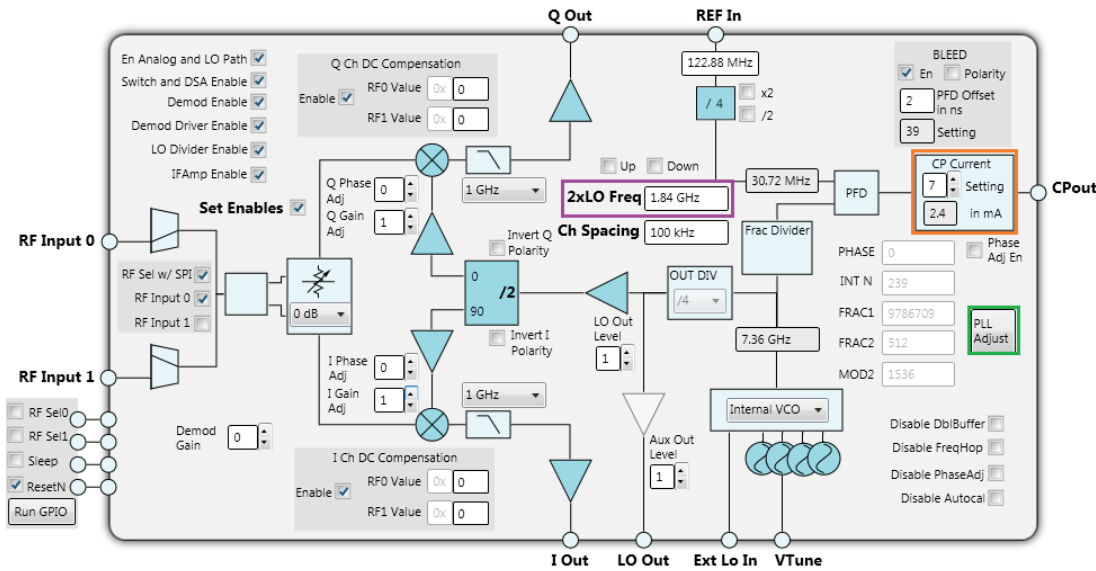

Figure 6. ADRF6821 Tab
3. From the ADRF6821 Board tab, double-click the ADRF6821 icon to open the ADRF6821 tab (see Figure 6). The ADRF6821 tab allows the user to configure the ADRF6821 in any desired configuration.
Figure 6 shows the ADRF6821 tab, which displays the main controls required to configure the device.